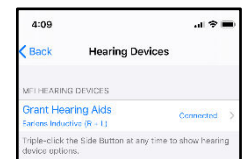

Figure 12
7. When your hearing aids are paired and connected, you will see the word “Connected” in the main Hearing Devices screen (Figure 12).